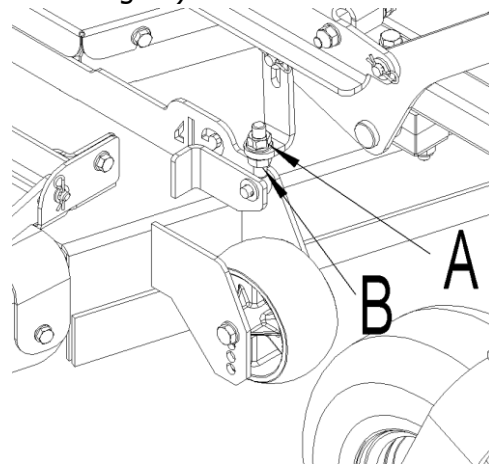

Figure 18
7.2.7 Locate the level adjust nut (A) and
nut (B) on the mower each deck hanger (Refer to Fig.18).